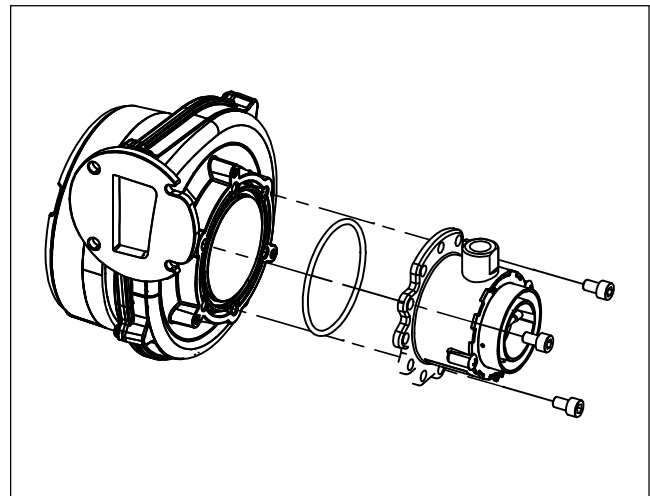

Fig. 27 Mixer
- Loosen the three socket head screws, and remove the mixer (see Fig. 27 Mixer).